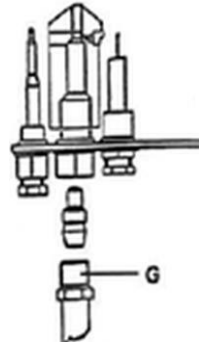

Fig.7
1. Unscrew the screw plug (G).
5. Check the correct distance "X" for the primary air (Fig. 7 and Table 2).